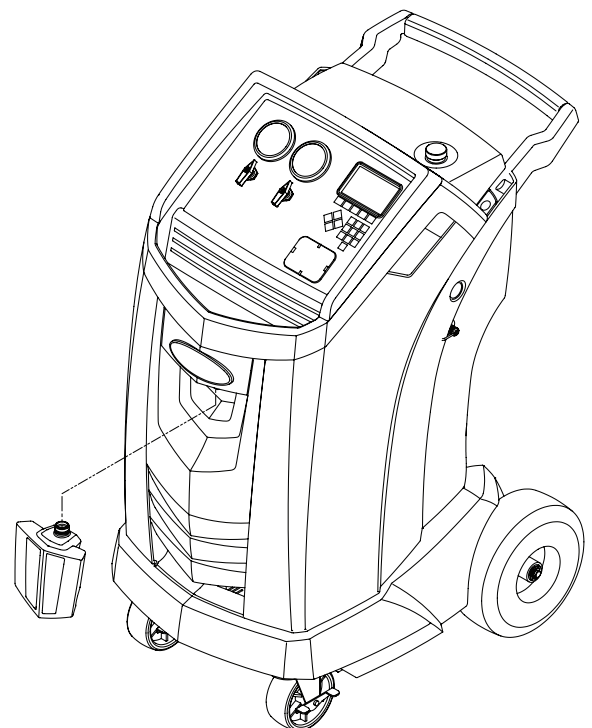

Figure 1
1. Locate the oil drain coupler on the front of the machine (see Figure 1).